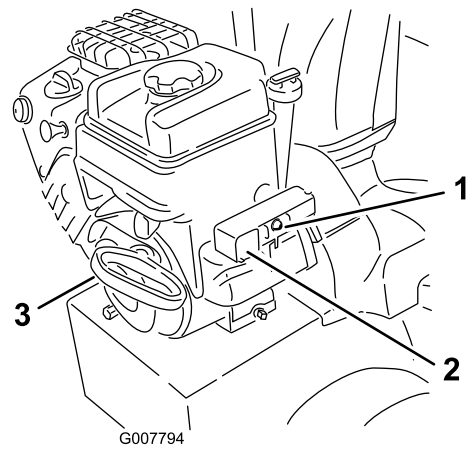

Figure 26
7. Start the snowthrower pulling the recoil starter or pressing the electric-starter button (Figure 26).